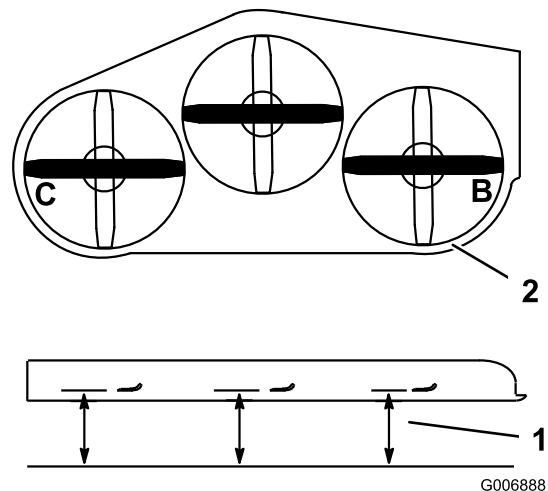

Figure 76
1. Position the **right** blade side-to-side (Figure 76).
2. Measure the right blade at the **B** location, from a level surface to the cutting edge of the blade tip (Figure 76).
4. Position the left blade side-to-side (Figure 76).
5. Measure the left blade at the **C** location (Figure 76), from a level surface to the cutting edge of the blade tip.